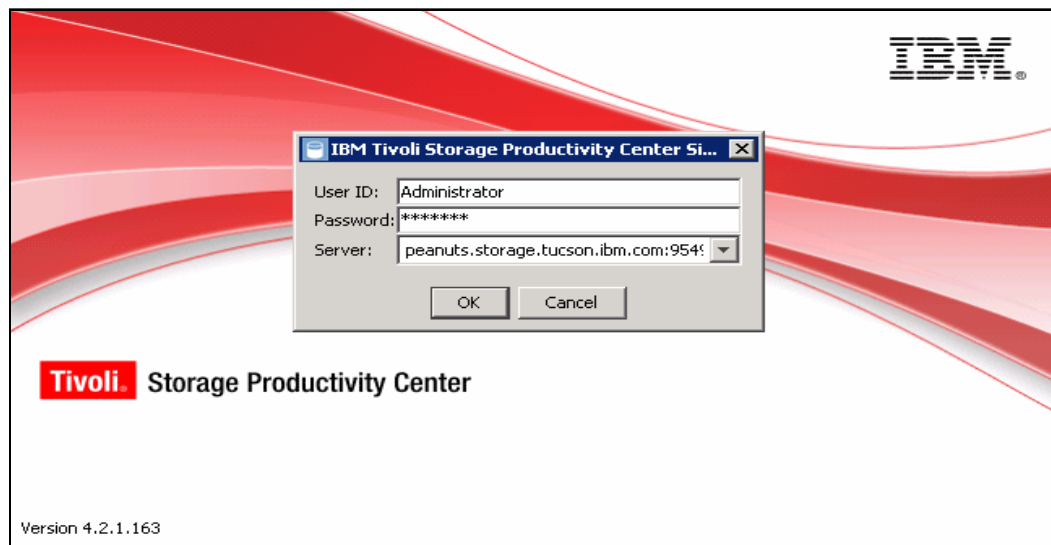

Figure 12-3 TPC GUI login window
2. After you click **TPC GUI (Java Web Start)**, a login window appears as shown in Figure 12-3
At this point you need to provide the proper credentials for login as show in Figure 12-3